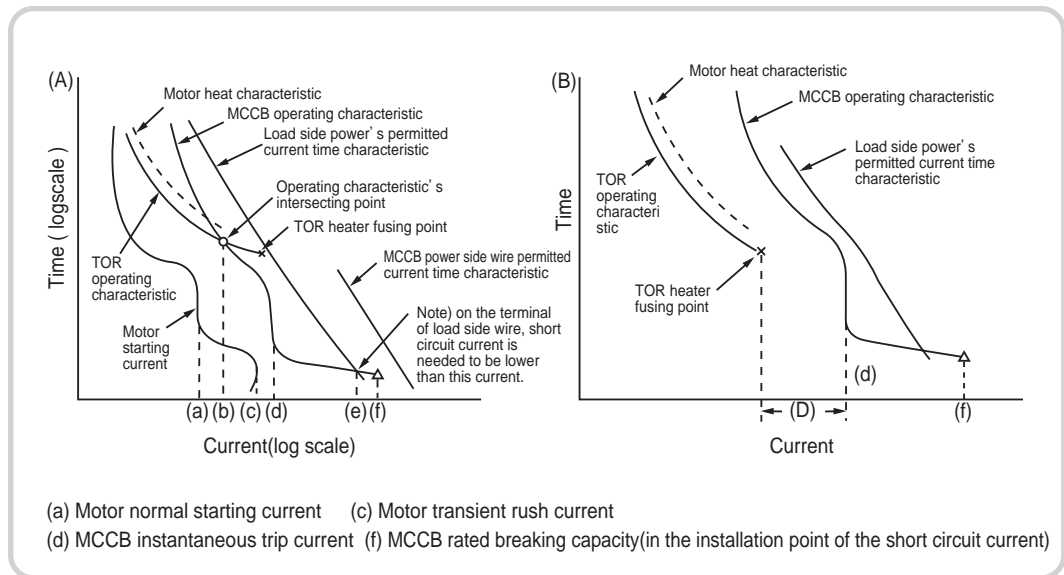
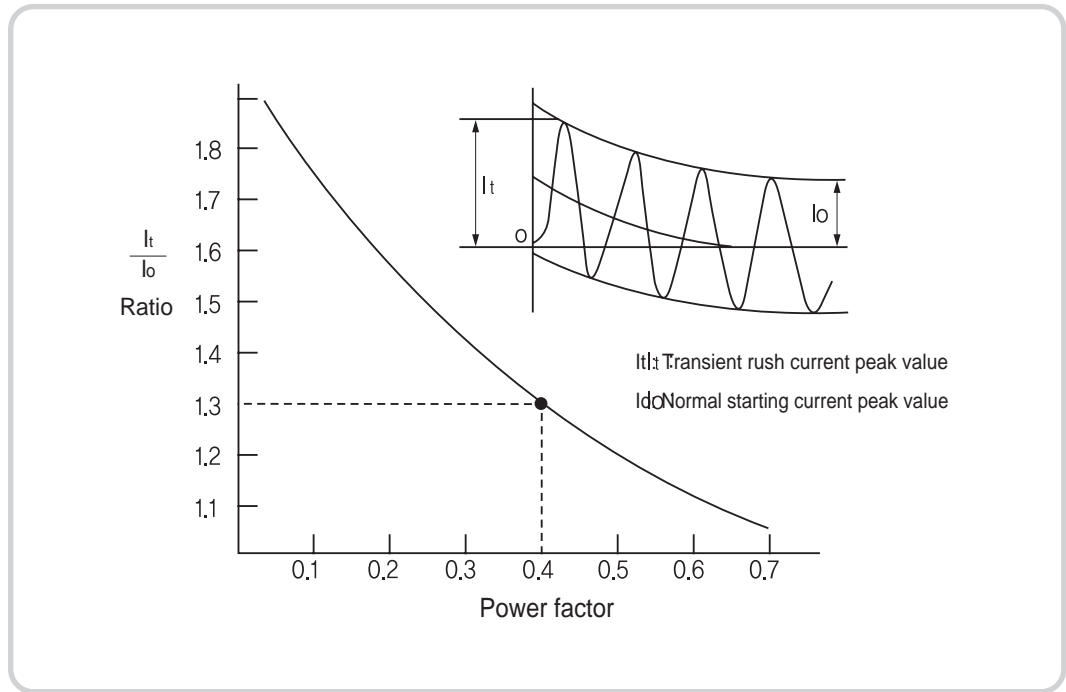
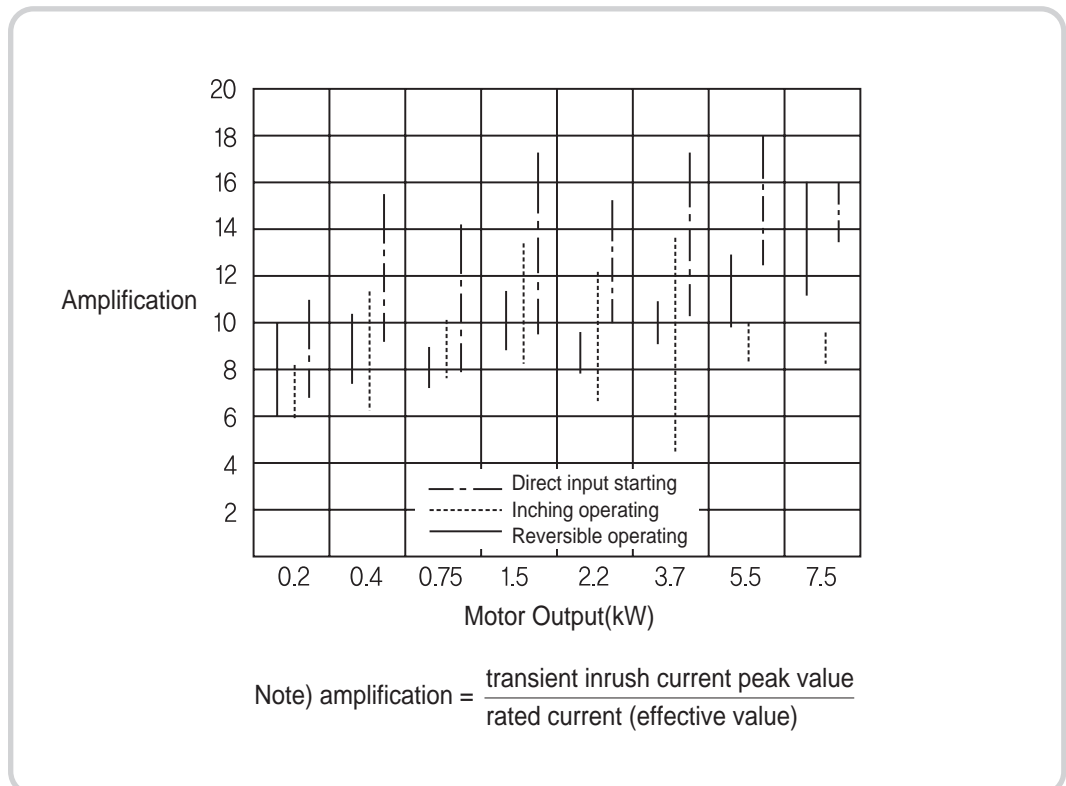
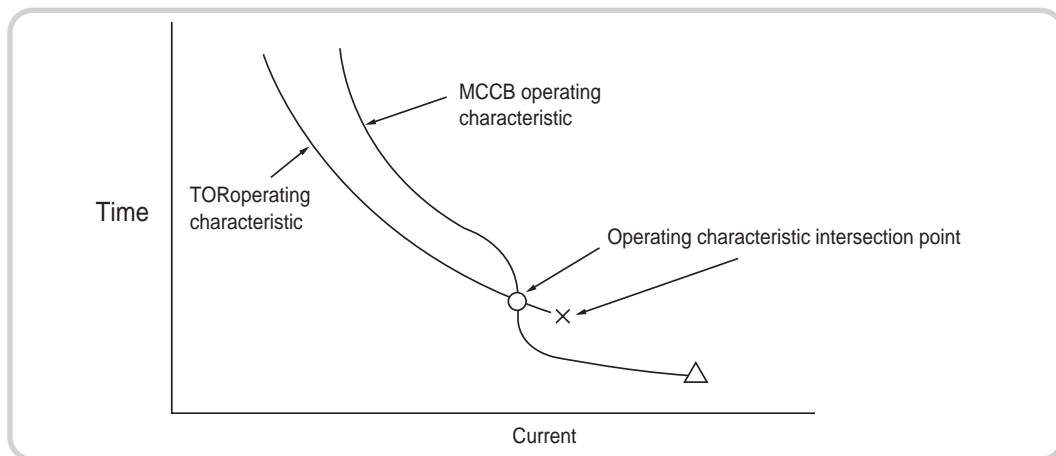

Fig. 64. Each characteristic's relation of protection cooperation
Fig. 66. Inrush current during motor's starting
Fig. 67. Amplification of motor's rated current and transient inrush current
Fig. 68. Intersecting point of breaker and thermal relay
Fig. 64 indicates the TOR's operation characteristic, the motor's heat characteristic and the motor's starting current but if each curve is same as fig. 64(A), the condition can be satisfied. This condition can be satisfied if in a modern (RC scale) TOR's selection the motor rated current is roughly the same as the heater set current.
There is a possibility of faulty operation by rush current during motor's starting. For a squirrel-cage motor, approximately 5~7 times the normal starting current flows during starting but because direct current overlaps during early starting (especially very beginning of semi cycle), an even bigger transient rush current flows and the amplification changes by a power factor as in fig. 66. When motor's starting power factor is 0.4 delay, it becomes about 1.3 times of normal starting current. Moreover if there is instant restarting (after power is off, restarting before motor stops spinning), at worst it reaches two times, in other words, 2.6 times of normal starting current from effect of residual current of motor. Fig. 67 shows actual measurement results from a real motor. Instantaneous trip time of MCCB is operated around a semi cycle so it is necessary to be cautious not to be operated with selected rush current. To prevent faulty operation from this rush current, check actual measurement result and set breaker's instantaneous trip current as 14 times of rated current. After deciding operation characteristic of magnetic switch and MCCB like this, it is a problem to make each characteristic's intersecting point. Fig. 64(A) indicates when the 7th item (p234) of protection cooperation condition is satisfied and fig. 64(B) indicates when it's not satisfied. In the case of fig. 64(B), because there is gap of protection cooperation, if the current of this range flows, the TOR's heater will be fused. TOR operating characteristic MCCB operating characteristic MCCB faulty operation
Also on fig64(A), when the intersecting point of the operation characteristic exceeds the magnetic switch's breaking capacity, even if TOR is operated, the magnetic switch becomes incapable of breaking and is damaged. So in the case of having an intersecting point of operation characteristic for protection cooperation, the 8th item(p234) of protection cooperation condition needs to be satisfied. It is desirable to satisfy the condition stated in this paragraph for protection cooperation but because this kind of current range is relatively narrow and the possibility of flowing is also very rare(the current of this range is mostly from motor winding ground and layer.), it can be neglected.
The intersecting point of the MCCB and the TOR's operation characteristics are not just on the breaker's inverse limit time characteristic range shown as fig. 64(A) but also on instantaneous trip range shown as fig. 68. In this case, if the magnetic contactor does not have any extra breaking capacity, it's possible for the intersecting point to exceed the magnetic contactor's breaking capacity. With consideration of this point, the Meta-MEC series magnetic contactor has been made to have enough extra breaking capacity, and as shown on table 3, it is over 13 times of rated operational current below 440V. So even when operation characteristic's intersecting point is the same as fig. 68, maximum rated capacity can be selected for the motor so in the case of selecting protection cooperation, it is economically advantageous.